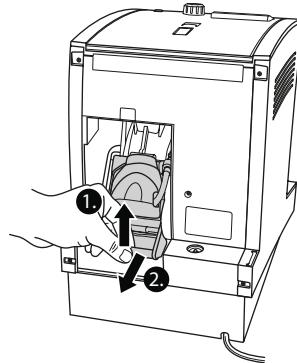

Fig. 13: Pulling out the brewing unit
- 5. Pull the red lever of the brewing unit upwards and pull the brewing unit carefully downwards at an angle out of the machine (Fig. 13).